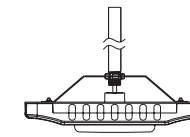

Figure 7
2. Unscrew the nut from customer supplied 3/4" NPT stem, make the stem hole on mounting bracket through 3/4" NPT stem, then screw the nut back to 3/4" NPT, and fix it. (Figure 7)